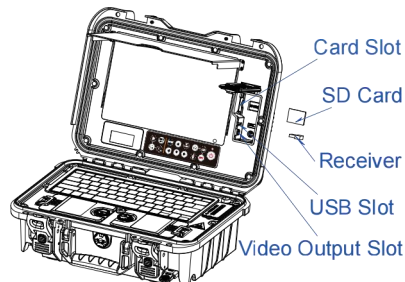

Figure 17. Install SD Card, Wireless Receiver and Video Output
7. Install SD Card, Receiver, and Video Output. (Figure 17.)